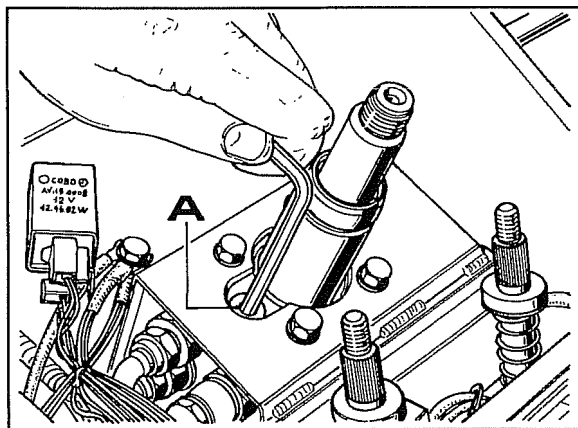
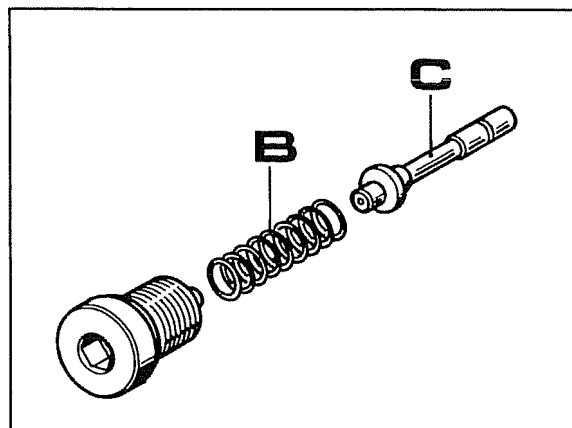

Fig. 58
Fig. 59
- c. Unscrew the plug **A** Fig.58 on the pressure relief valve and remove spring **B** and pin **C** (Fig.59).
Fig.59 gives an exploded view of the parts making up the pressure relief valve. Wash them thoroughly, dry them with a compressed air jet and lubricate them with the same type of oil as in the circuit before reinstalling the valve.